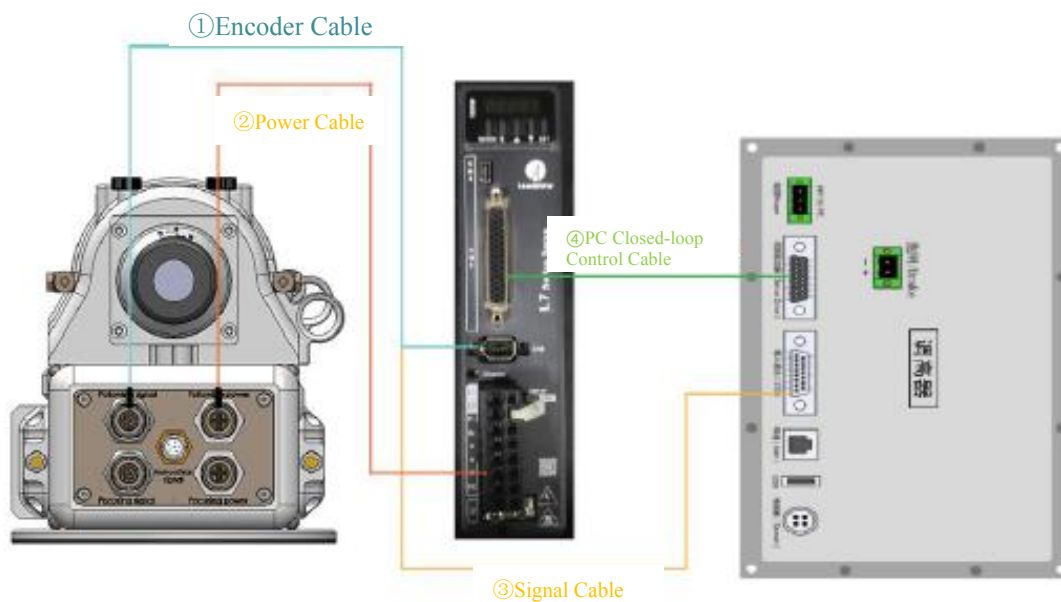

Figure 2.0
② Follow-up axis wiring (L7RS-100), as shown in Figure 2.0.